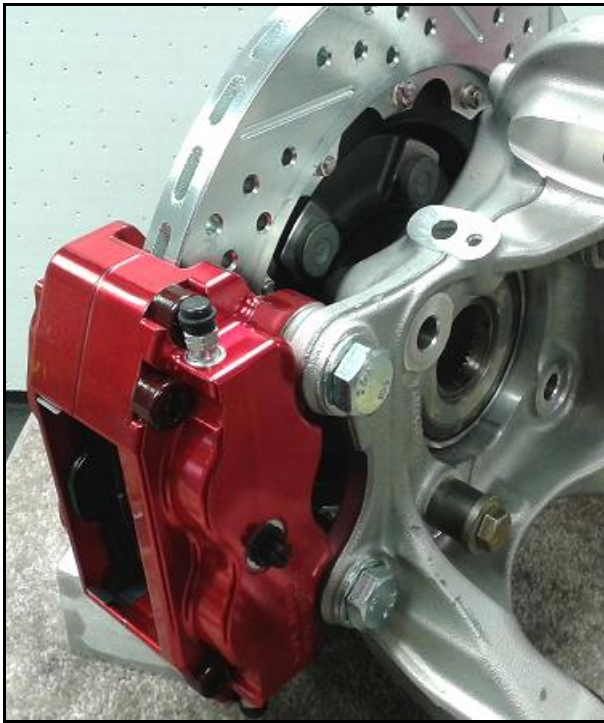

Figure 1: Caliper installed (inboard view)
6. Install the caliper to the spindle using the supplied M14-2.0 x 35 bolts and washers. Torque bolts to 110 ft-lbs. See Figures 1 and 2 for reference.